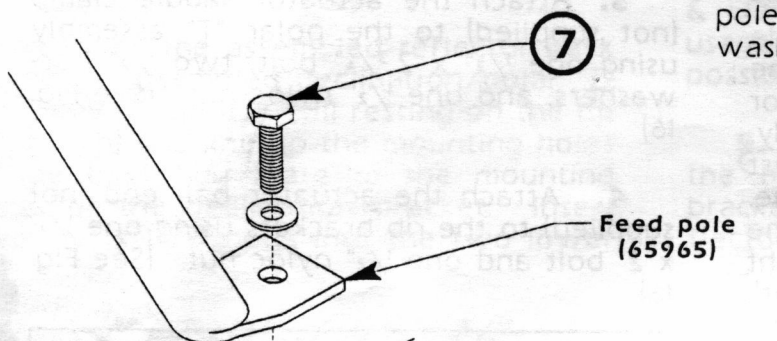

FIG. 19
2. Attach the feed poles to the ribs using four $\frac{1}{4}$ " x 1" bolts, eight $\frac{1}{4}$ " flat washers, and four $\frac{1}{4}$ " nuts. (See Fig. 19)